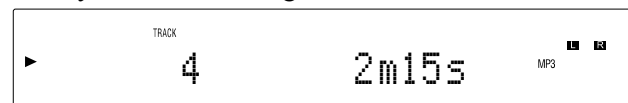

Figure 40
1. Press the PLAY/PAUSE ►/|| Push-button to start Playback. Refer to figure 40.